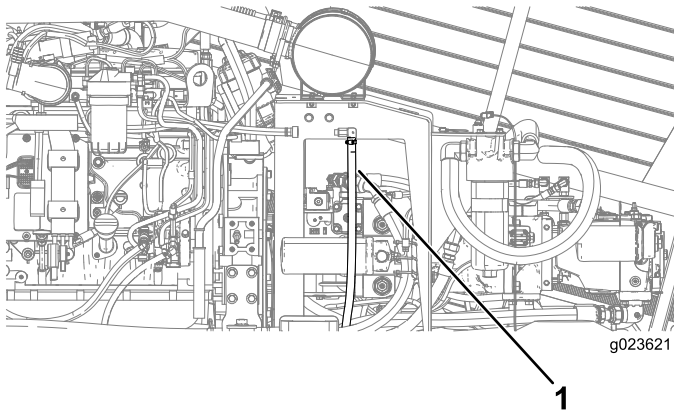

Figure 115
3. Gently pull the crankcase-vent tube out (Figure 115).
4. Clean the end of the crankcase-vent tube (Figure 115).